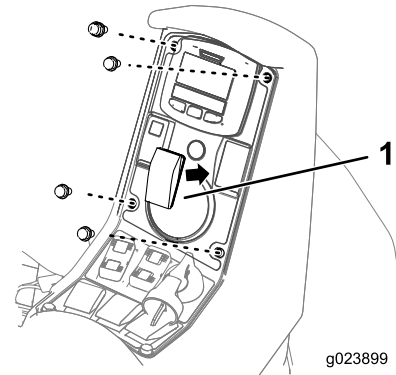

Figure 4
6. Install the on/off switch as shown in Figure 4.
Foam on/off switch—activates the compressor, generating a flow of foam to both of the boom sections simultaneously (Figure 4).